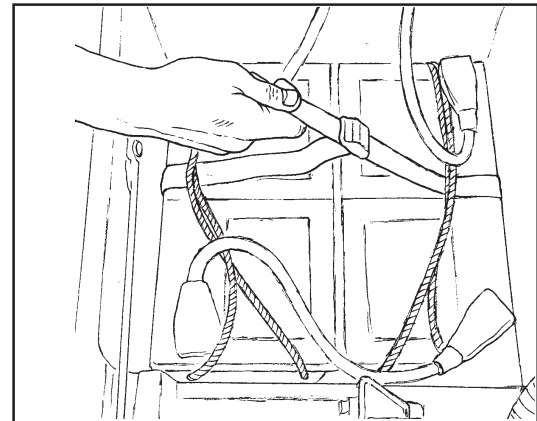

Figure 12
11. Secure the batteries in place with the battery straps (See Figure 12).